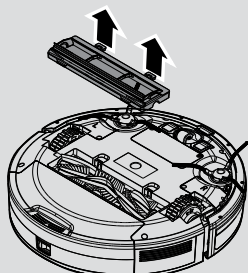

Fig. 11
2. Press the clips on the sole plate remove the agitator cover. [Fig. 11]